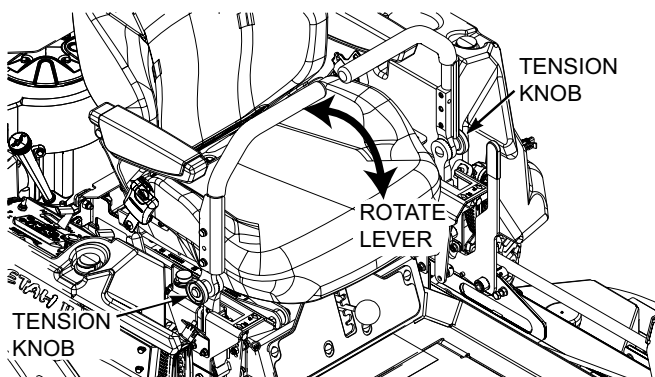

Figure 4-9. Adjusting Steering Levers
3. If adjustment of the steering levers is needed, use the following instructions to adjust. See Figure 4-9.